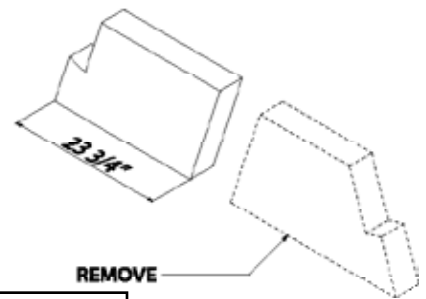

FIGURE 35
**Step 12:** Cut one end of two of the smoke dome top large, part 13, components at an angle parallel to the opposite end of the piece. The bottom length of the cut piece should measure  $23\frac{3}{4}$ " (Figure 35).